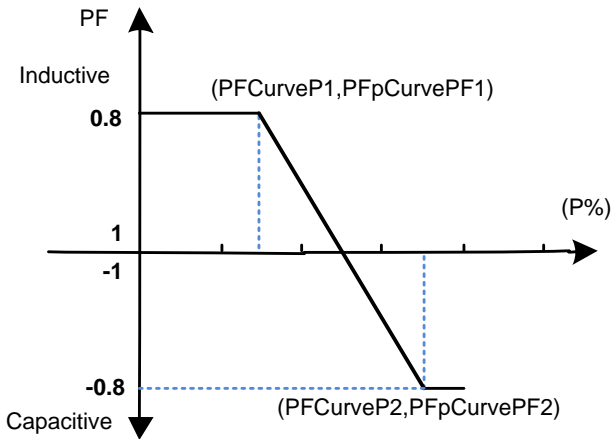

Figure 6-15 PF(P) Curve Mode
2. **PFpCurve functions:** PFp curve mode. Using the curves to set the PFp setpoints (See Figure 6-15). These functions are only available for IEEE-1547 and Rule21 grid standards.